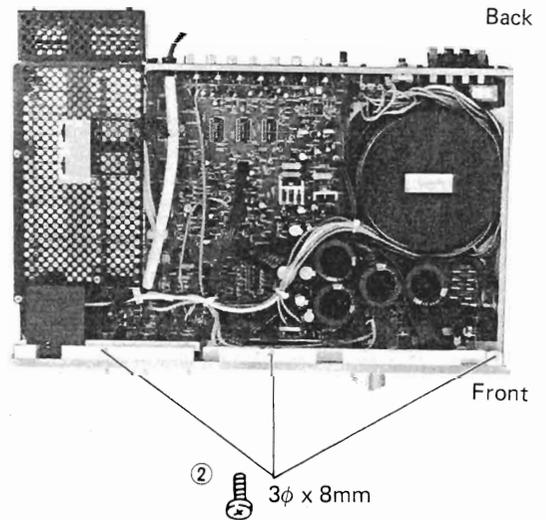

Figure 7
2. Remove three screws ② (3φ x 8mm) holding front panel and back plate as shown in Figure 7.